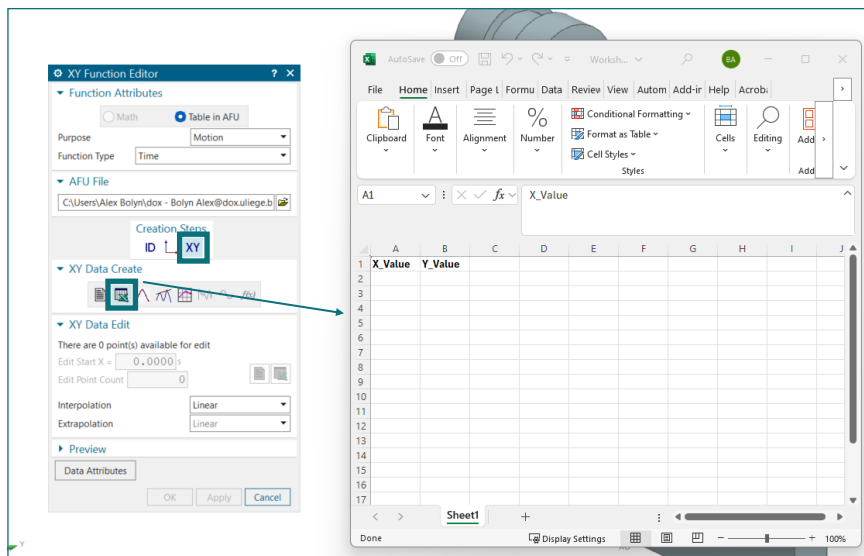

Figure 5—Defining table from spreadsheet
- Select *XY Data* (XY button in *Creation Steps*) and click on the Excel button (called Key In from Spreadsheet) to open a spreadsheet file (as shown in Figure 5).